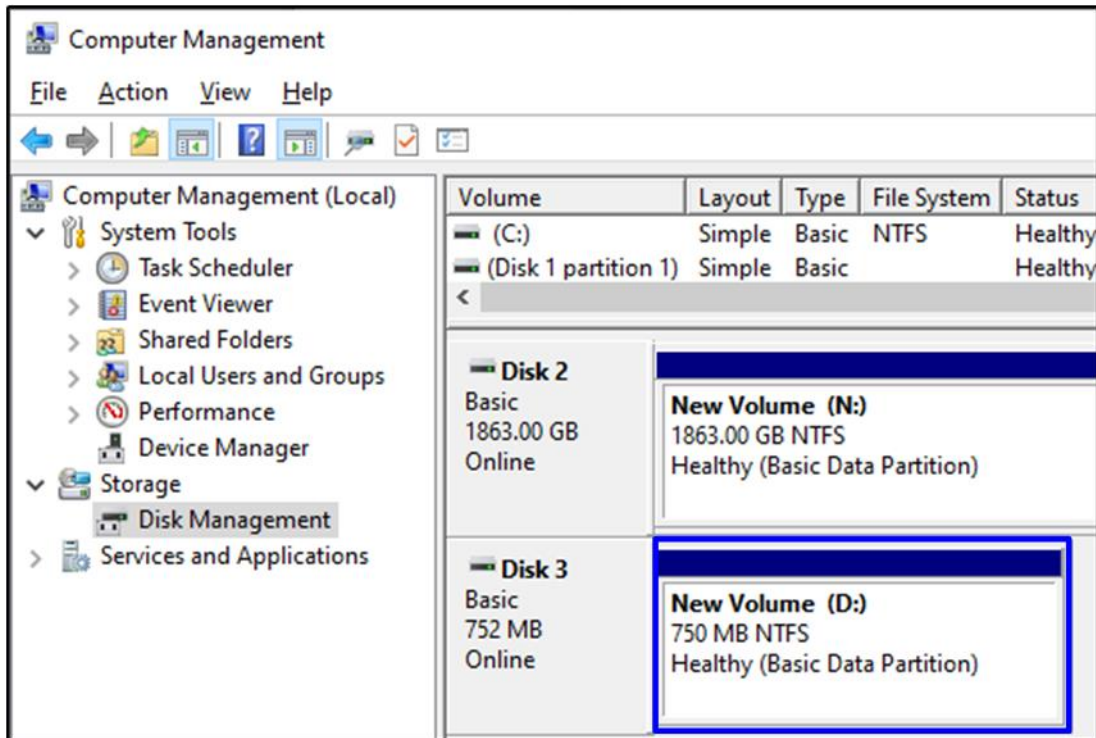
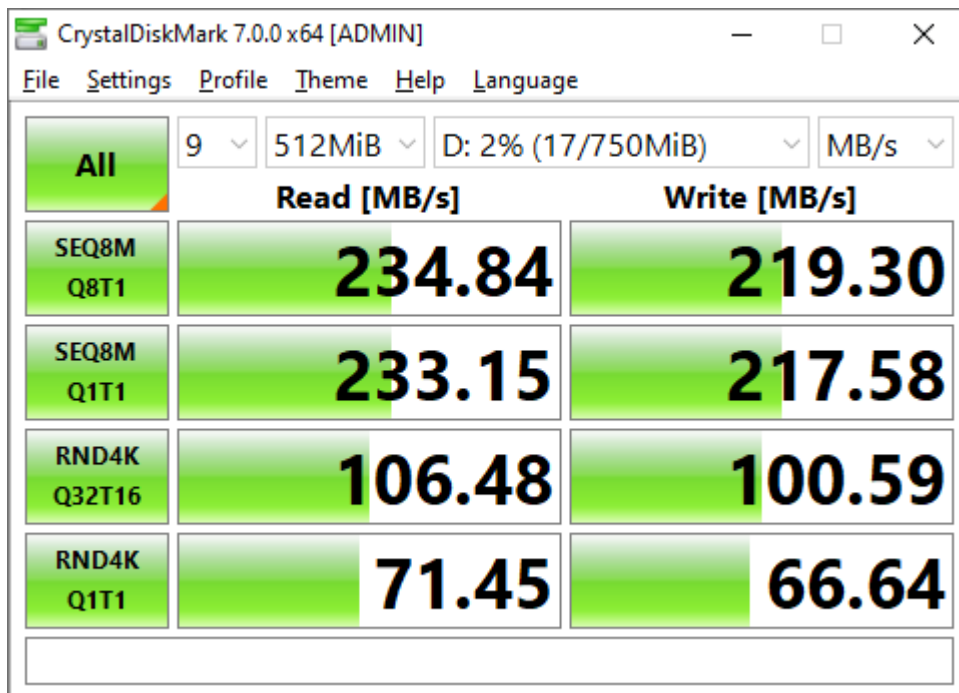

Figure 3-5 Format Complete
Figure 3-6 Disk performance test by benchmark (SATA-II device demo)
5. When the format is completed, new drive is ready to use, as shown in Figure 3-5. Now the user can run disk benchmark such as CrystalDiskMark for checking the operation and disk performance. Figure 3-6 shows example of disk performance by using CrystalDiskMark benchmark.